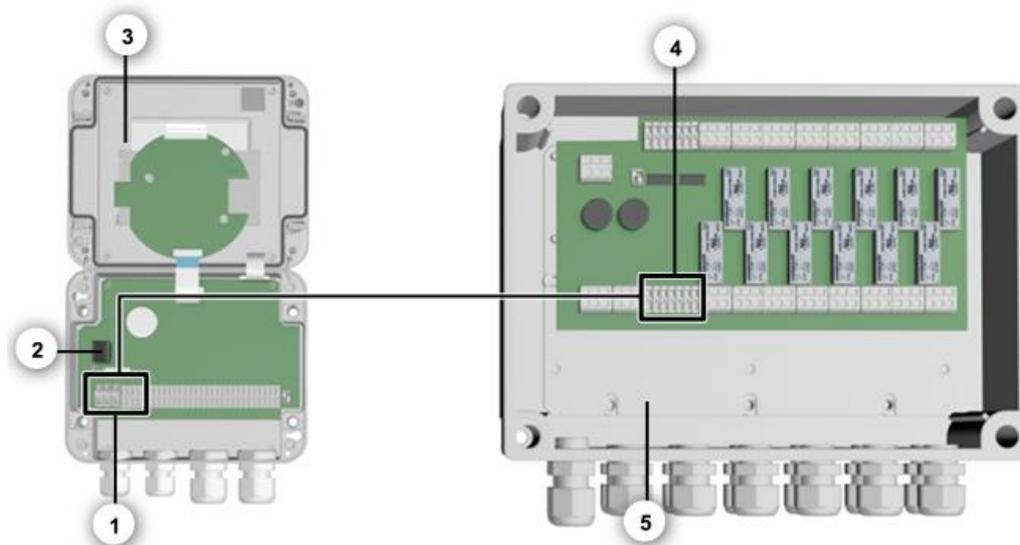

Figure 9: Terminal position when connecting the SICON M to the Powerbox
In the SICON M, install the driver IC for the Powerlink on the plug-in socket (Figure 9, pos. 2). This is included in the scope of supply for the Powerbox.